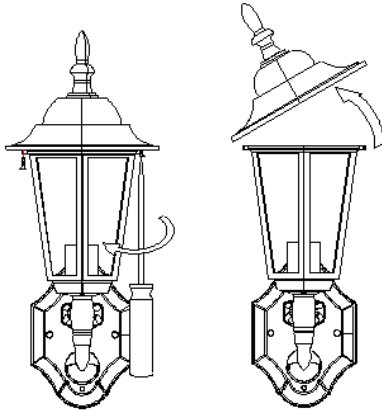

FIGURE 5
- (1) Do not touch the lamp while it is in use or still hot. Allow it to cool off (about 5 minutes) before touching it.
- (2) Do not use the lamp rated higher than 100 watts.
- (3) Switch off the power source. Unscrew retaining screw from the top cover (FIGURE 5).